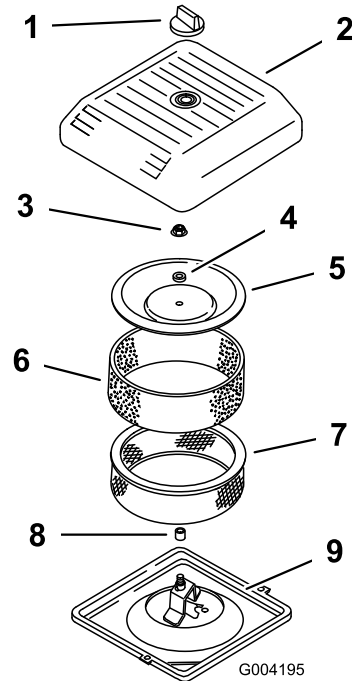

Figure 25
4. Unscrew the knob and remove the air cleaner cover (Figure 25).
5. Carefully slide the foam pre-filter off of the paper element (Figure 25).
6. Unscrew the cover nut and remove the cover, spacer and paper filter (Figure 25).
2. Place the air cleaner assembly onto the air cleaner base (Figure 25).
3. Install the cover, spacer and secure it with the cover nut (Figure 25). Torque the nut to 95 inch-lb (11 N•m).
4. Install the air cleaner cover and secure with the knob (Figure 25).